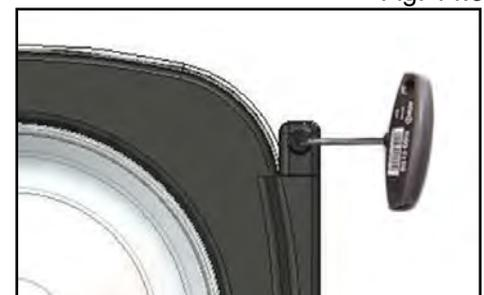

Fig. 14.4
- Disassemble the hinge locking screws (Fig. 14.4).